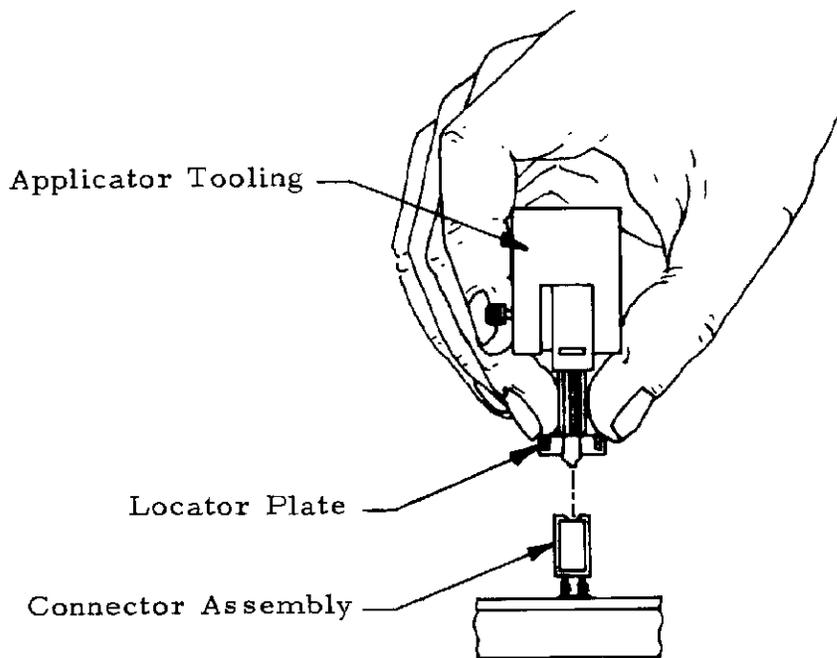

Figure 4
- D. Fit locator plate on applicator into card slot of connector, as indicated in Figure 4, and push down on applicator tool enabling push pins to enter the connector. Refer to IS 3004 for applicator components.